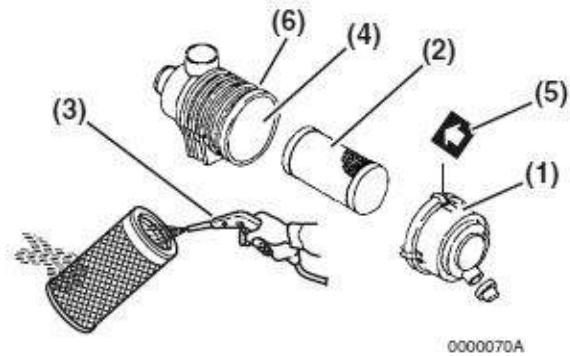
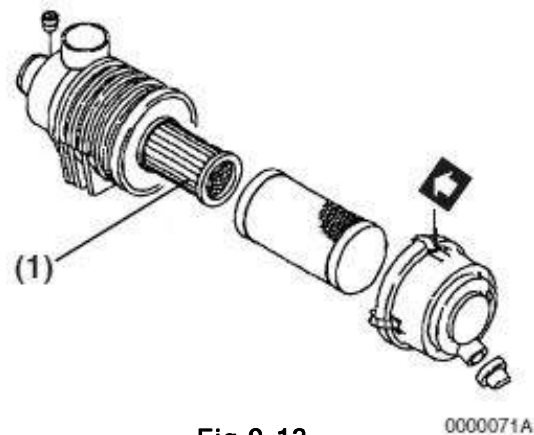

Fig.9-12
Fig.9-13
Note that a typical air cleaner is shown in **Fig.9-12** and **Fig.9-13** for illustrative purposes only.
1. Unlatch and remove the air cleaner cover (**Fig.9-12, (1)**).
2. Remove the element (**Fig.9-12, (2)**) (outer element if equipped with two elements).
3. Blow air (**Fig.9-12, (3)**) through the element from the inside out using 42-71 psi (0.29-0.49 MPa, 3.0-5.0 kgf/cm²) compressed air to remove the particulates. Use the lowest possible air pressure to remove the dust without damaging the element.
4. If the air cleaner is equipped with a double element, only remove and replace the inner element (**Fig.9-13, (1)**) if the engine lacks power or the dust indicator actuates (if equipped).
7. Reinstall the element into the air cleaner case (**Fig.9-12, (4)**).
8. Reinstall the air cleaner cover making sure you match the arrow (**Fig.9-12, (5)**) on the cover with the arrow on the case (**Fig.9-12, (6)**).
Replace the air cleaner element (**Fig.9-12, (2)**) every 500 hours even if it is not damaged or dirty. When replacing the element, clean the inside of the air cleaner case (**Fig.9-12, (4)**).
If the air cleaner is equipped with a double element, only remove and replace the inner element (**Fig.9-13, (1)**) if the engine lacks power or the dust indicator actuates (if equipped).